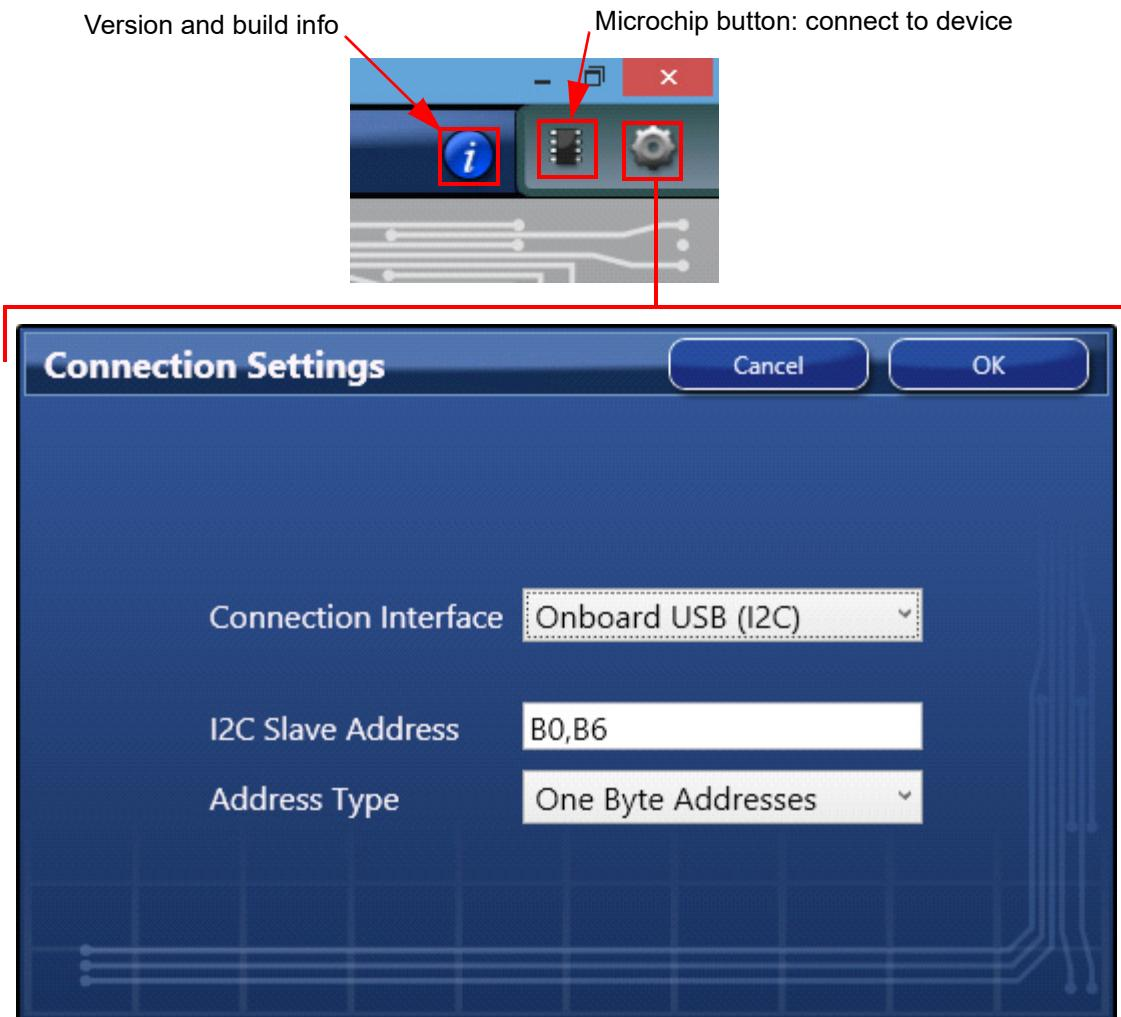

Figure 29. Connection Settings Window
- The device can be communicated via I2C or SPI (see Figure 29)
- The microchip button must be pushed to write or read from the device (see Figure 29)
- The “?” button gives version and build info of the GUI. It also outputs logging information (see Figure 29):